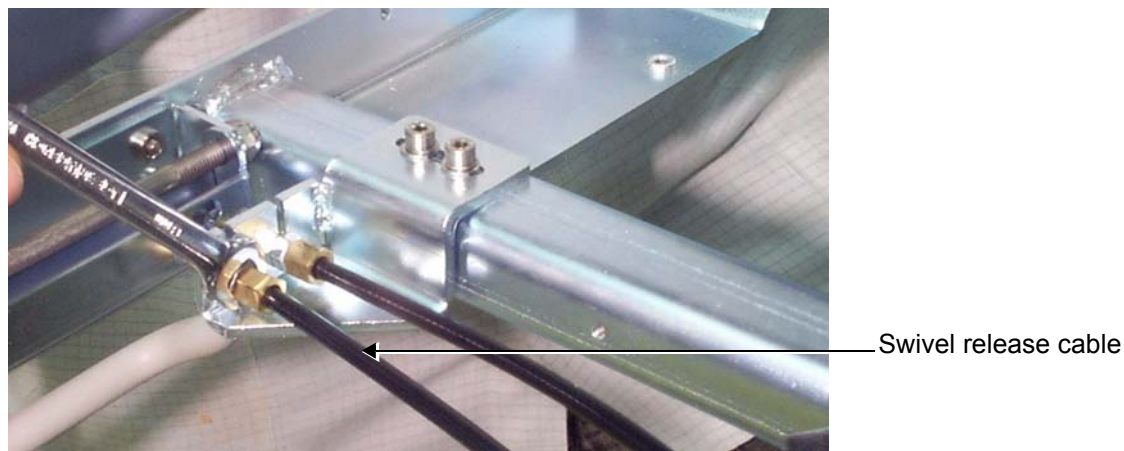
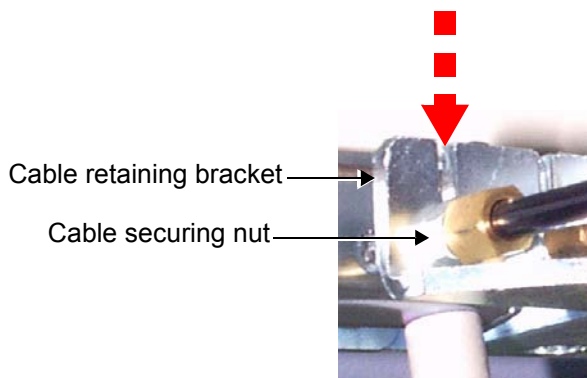

Figure 8-87 Releasing the Gas Spring Cable from the Cable Retaining Bracket
Figure 8-90 Swivel Release Cable Secured in Retaining Bracket
- 7.) Feed the gas spring cable down into the slot in the cable retaining bracket (refer to Figure 8-90 on page 8-102) and tighten the securing nut against the bracket to hold the cable firmly in position - refer also to Figure 8-87 on page 8-100.
- 7.) Using a combination wrench, release the swivel release cable from the cable retaining bracket by loosening the securing nut, as shown in Figure 8-87 below.
- 5.) Feed the gas spring cable down into the slot in the cable retaining bracket (refer to Figure 8-90 below) and tighten the securing nut against the bracket to hold the cable firmly in position - refer also to Figure 8-87 on page 8-100.
- 7.) Repeat step 5 to secure the swivel release cable to the cable retaining bracket (Figure 8-90 below).